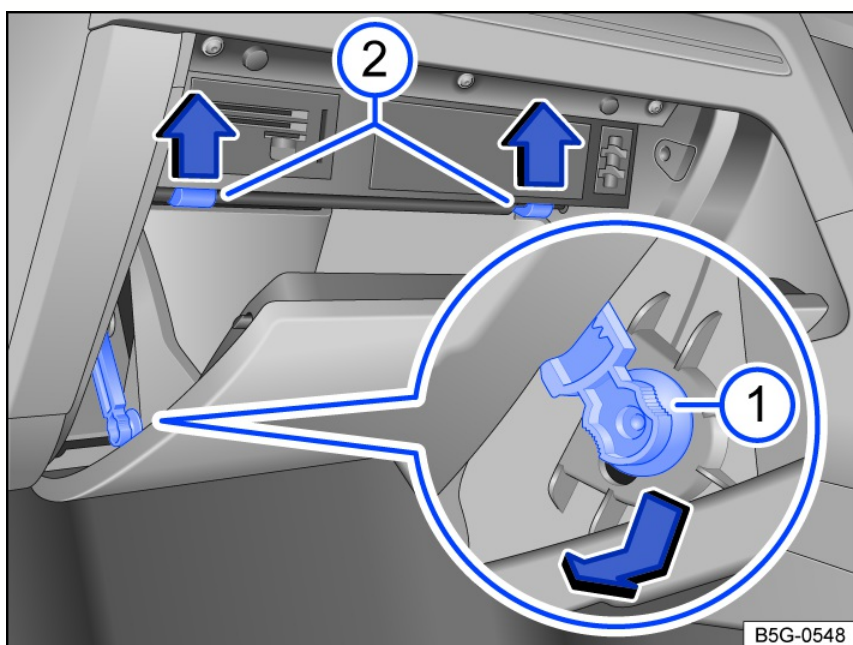

Fig. 177 Fuse box cover on the instrument panel: On the passenger side in right-hand drive vehicles.
- Push the damper element in the direction of the arrow and into the opening in the bracket, before pulling it out sideways fig. 177 ①.
- Push the catches up in the direction of the arrow while at the same time opening the storage compartment further fig. 177 ②.
- To *refit* the storage compartment, first put it into position. Fit the damper element into the opening in the bracket and push it in the opposite direction to the arrow fig. 177 ① until you hear it click into place. Carefully push the storage compartment forward, beyond the point at which the catches offer resistance fig. 177 ②.